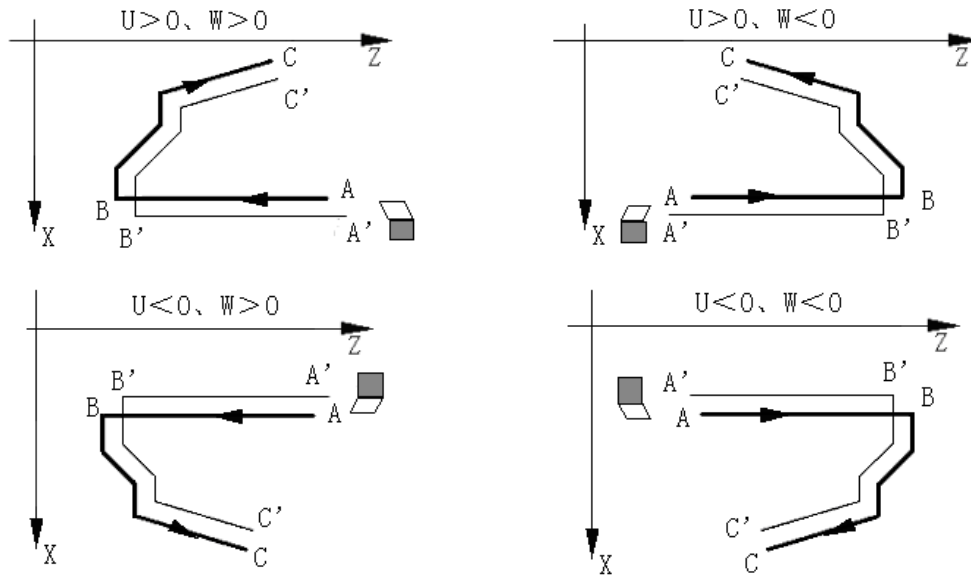

Fig. 4-43
- 3) Coordinate offset direction in left roughing allowance: U,W in ① expresses the coordinate offset and cut-in direction in finishing, U, W sign compound is as Fig. 4-43: B→C is finishing path, B'→C' is roughing contour, A is the start-up point.